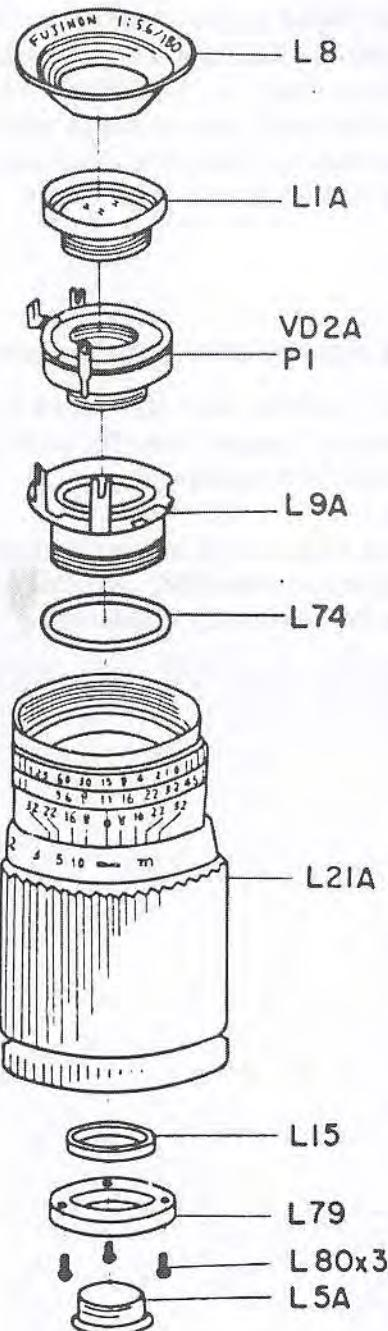

Fig. 1
A. Remove the lens plate (L3) with the Tool (L3-TA1). Fig. 1
B. Remove the front lens group (L1A) with the Tool (L1-TA1) and rear lens group (L5A) with Tool (L5-TA1). Fig. 1
A. Remove the ring installation screws (L87, 3 each), and remove the ring (L86), adjust washer (L74) and shutter installation seat (L9A) from the lens barrel (L21A) Fig. 1